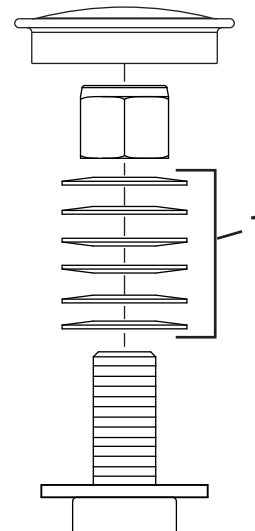

Figure 53
3. Remove the dust cap from the caster and tighten the locknut (Figure 53).
4. Tighten the locknut until the spring washers are flat, and then back off a 1/4 turn to properly set the preload on the bearings (Figure 53).
Important: Make sure that the spring washers are installed correctly as shown in Figure 53.
5. Install the dust cap (Figure 53).